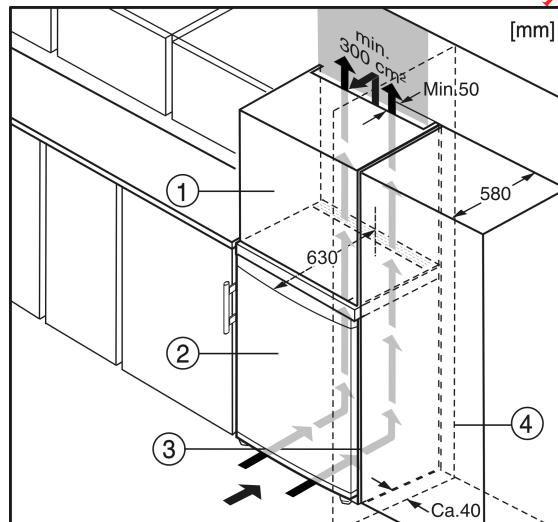

Fig. 6
- (1) Stack cabinet
(2) Appliance
(3) Kitchen cabinet
(4) Wall
The appliance can be inserted into a row of kitchen units. To match the appliance Fig. 6 (2) to the height of the row of units, a suitable stack cabinet Fig. 6 (1) can be fitted above the appliance.*
When inserting the appliance into a row of kitchen units (max. depth 580 mm), the appliance can be installed directly next to the kitchen unit Fig. 6 (3). The appliance door projects relative to the front of the kitchen unit by 34 mm at the side and by 50 mm in the middle of the appliance. It can be opened and closed perfectly as a result.*
If the appliance is installed with the hinges next to a wall Fig. 6 (4), the distance between appliance and wall has to be at least 40 mm. This corresponds to the projection of the handle when the door is open.*